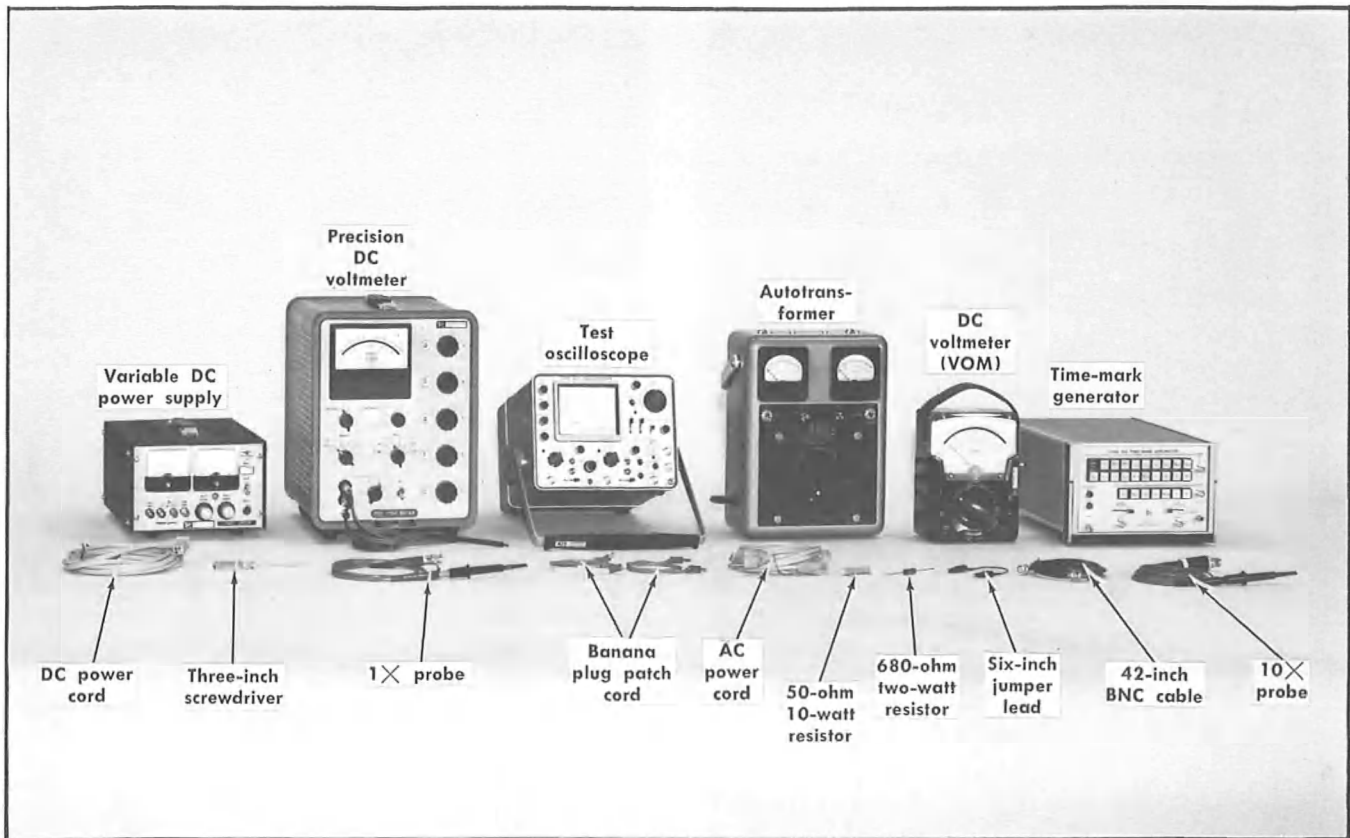

Fig. 5-1. Test equipment required for steps 1 through 15.
a. Test equipment required for steps 1 through 15 is shown in Fig. 5-1.